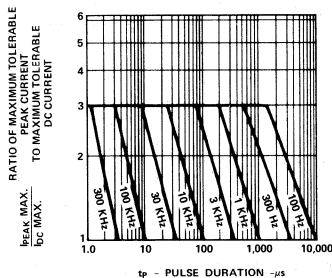

Figure 5. Maximum Tolerable Peak Current vs. Pulse Duration. ( $I_{DC \text{ MAX}}$  as per MAX Ratings).
- See Figure 5 (Red/Orange), 10 (Yellow) or 15 (Green) to establish pulsed operating conditions.